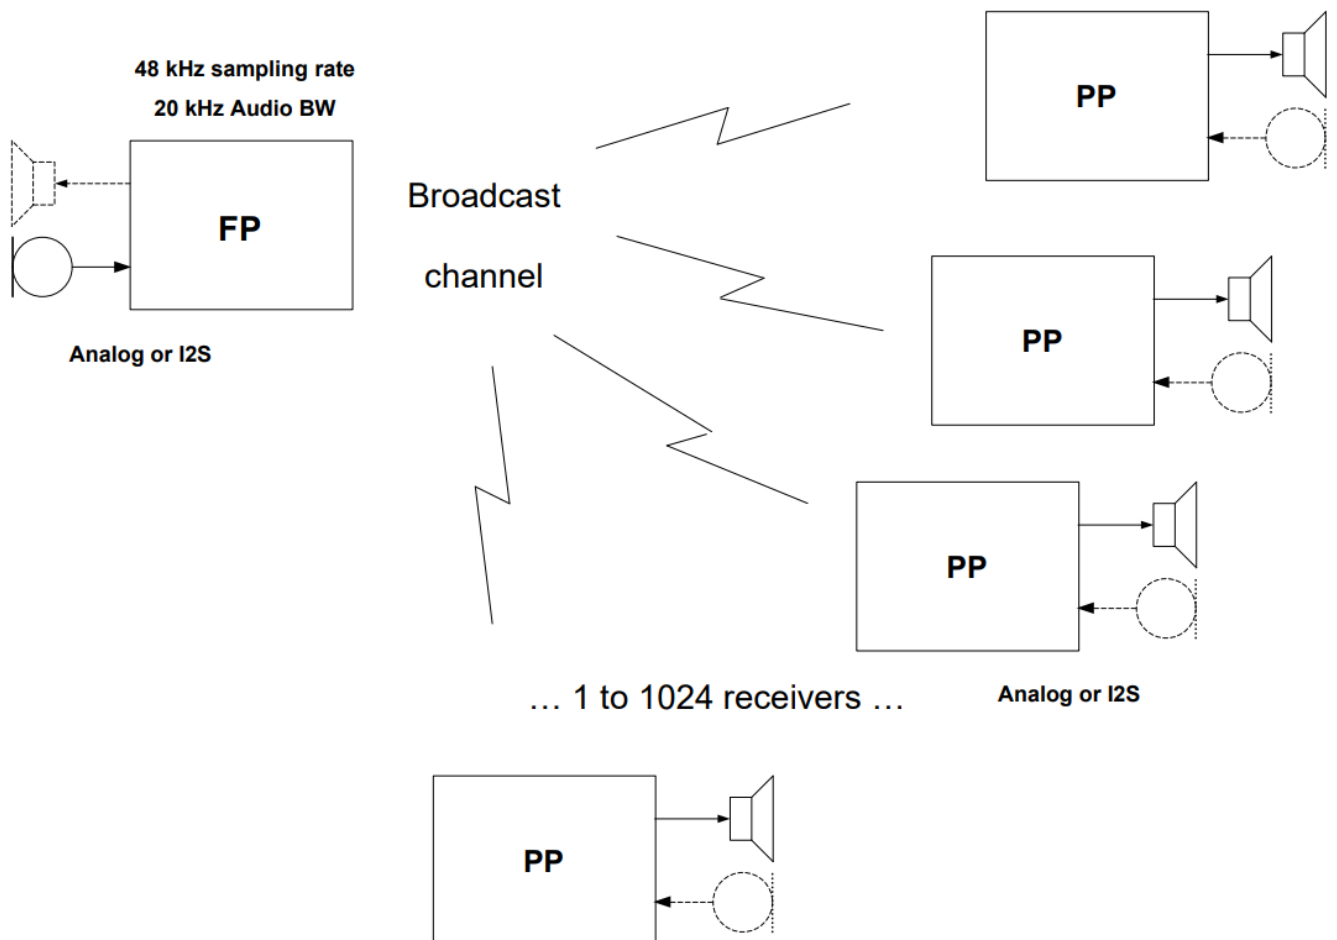

Figure 4: Tour Guide System
Figure 4 shows the high level block diagram of the Tour Guide system where FP is broadcasting audio up to 1024 PPs. Audio is encoded and transmitted by FP with a CELT codec. The following connections are possible in this setup, which are fully under the control of the user application:
- “question call” is a wideband voice connection (G.722 codec) that one of the PPs uses to talk to FP after the voice connection is established (components marked by a dashed line in Figure 4 are needed). The conversation between FP & PP is broadcasted to all other PPs unless FP mutes the broadcasted audio to keep the conversation private. A small amount of data can be exchanged between FP & PP with the use of this connection.